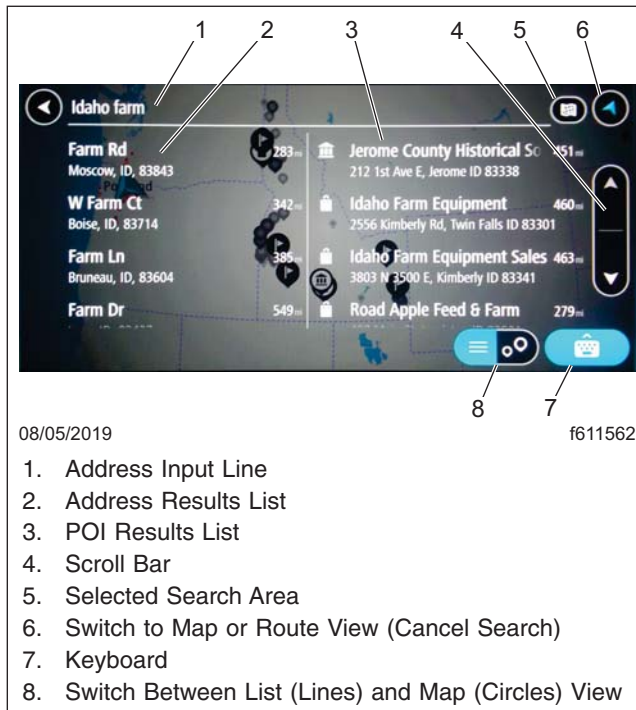

Fig. 7.13, Entering a Destination - ICC5
3. Enter the desired address, see Fig. 7.13.